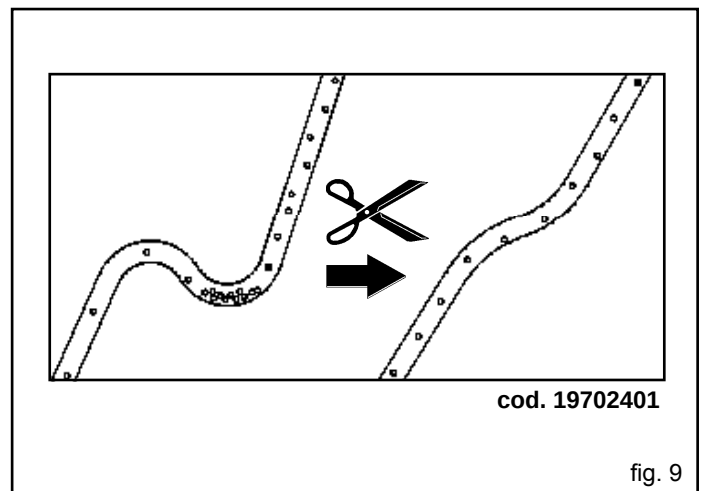

fig. 9
- 7) Check the length of the grain tubes (with the machine completely hoisted) to avoid bendings and consequently breaking of the tube, as well as the formation of loops (Fig. 9).